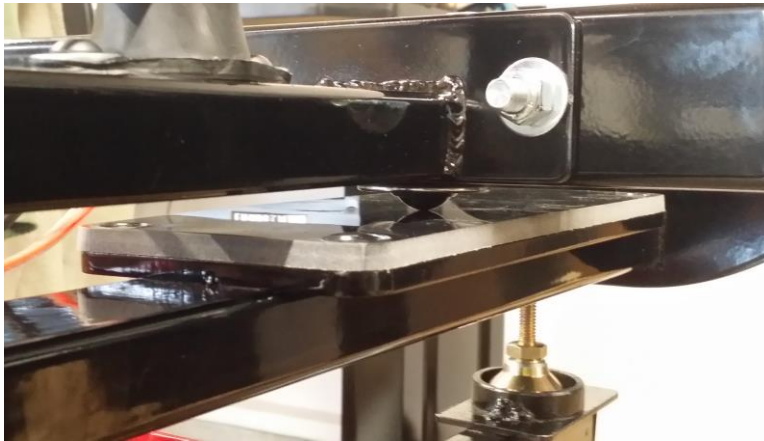

Figure 19
- 30 At this time you can install the Two BALL TRANSFERS (see figure 19). Lift part A of the seat base up just enough to press one of the ball transfers into the 1 27/64" diameter hole. Lower the base back down so the weight will keep ball transfer in place.